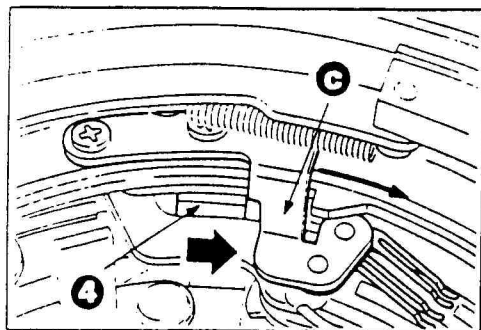

Fig. 18
Step 4) When the lever ④ is pressed in the arrow direction, it will get in the shutter release position. (See Fig. 18.)